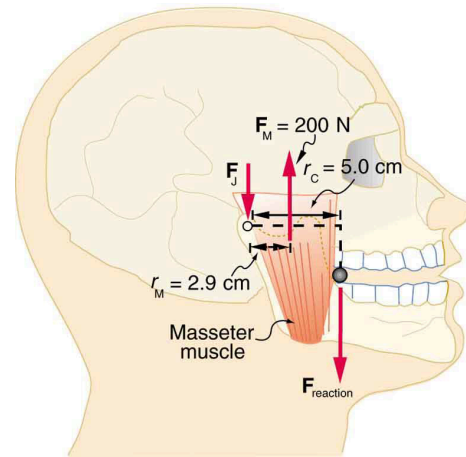

FIGURE 9.42 A person clenching a bullet between his teeth.
35. Unlike most of the other muscles in our bodies, the masseter muscle in the jaw, as illustrated in Figure 9.42, is attached relatively far from the joint, enabling large forces to be exerted by the back teeth. (a) Using the information in the figure, calculate the force exerted by the lower teeth on the bullet. (b) Calculate the force on the joint.